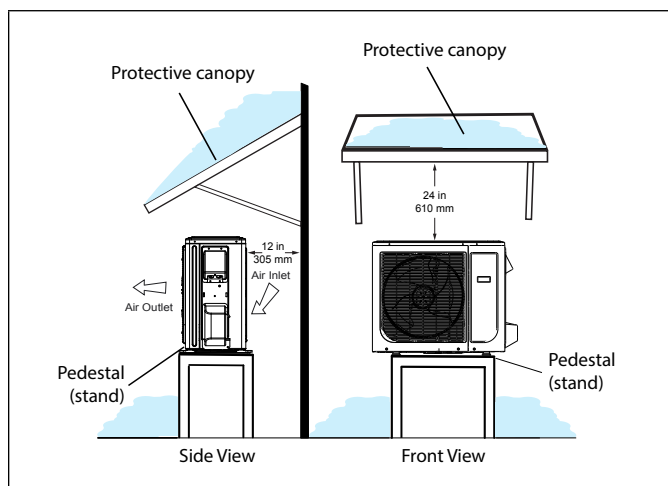
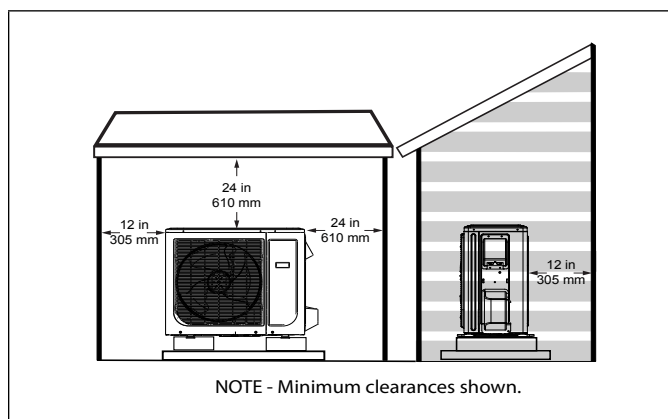

Figure 19. Outdoor Unit on Pedestal and Protective Canopy
Figure 20. Dog House-Style Shelter
- If the outdoor unit is subjected to prolonged exposure to direct sunlight with temperatures over 100°F (38°C) a canopy is recommended as illustrated in "Figure 19. Outdoor Unit on Pedestal and Protective Canopy" or "Figure 20. Dog House-Style Shelter" on page 9.
- Place unit away from overhanging roof lines which would allow water or ice to drop on, or in front of, coil or into unit. Construct a canopy as illustrated in “Figure 19. Outdoor Unit on Pedestal and Protective Canopy”.